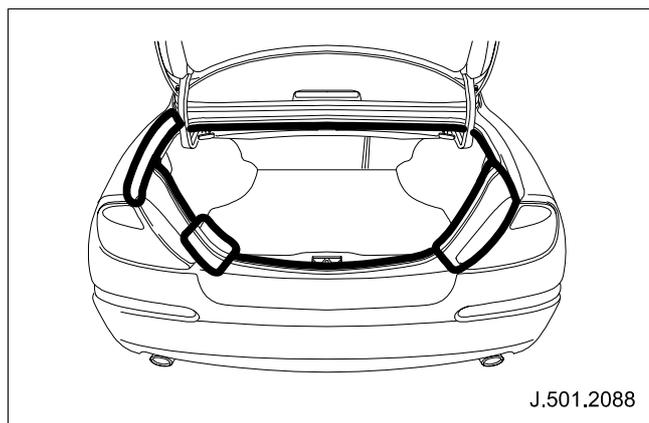

Fig. 22
- 1 The following illustrations depict possible water leak points around the luggage compartment. (See Fig. 22)